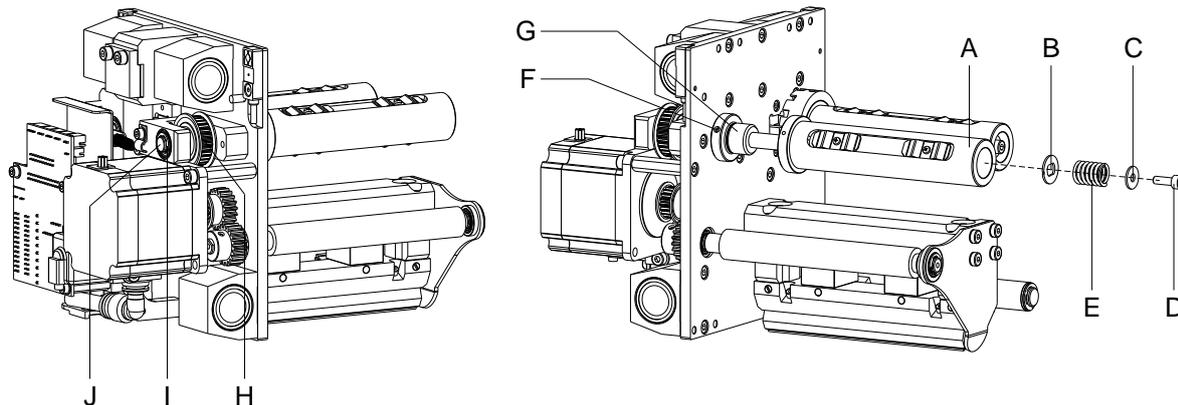

Figure 35
4. Install the transfer ribbon roller (A, Figure 35).
5. Place the drive plate (B, Figure 35), the spring (E, Figure 35) and the washer (C, Figure 35) and tighten it with the screw (D, Figure 35) (see *Notice* below).
Screw the Allen head screw (D, Figure 35) in as far as it goes and then loosen it again by three full turns.
Screw the Allen head screw (D, Figure 35) in as far as it goes and then loosen it again by two full turns.
Tightening the Allen head screw (D, Figure 35) = increase ribbon tension.
Loosening the Allen head screw (D, Figure 35) = reduce the ribbon tension.